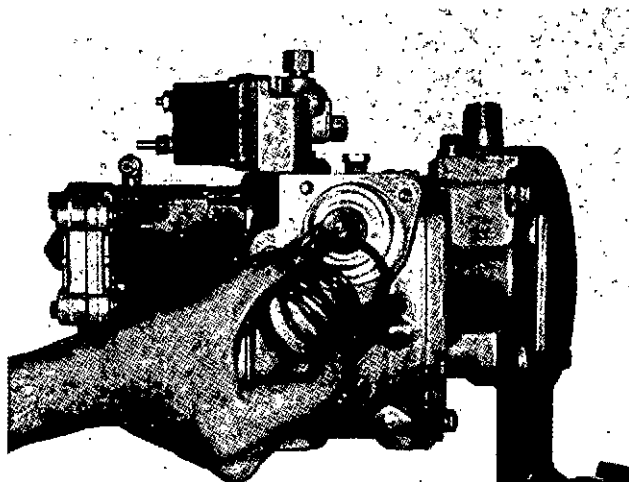

Fig. 2-14, (F5303). Install the AFC bellows spring and shim.
5. Put the spring shim in the seat groove of the bellows spring. Install the spring, Fig. 2-14.